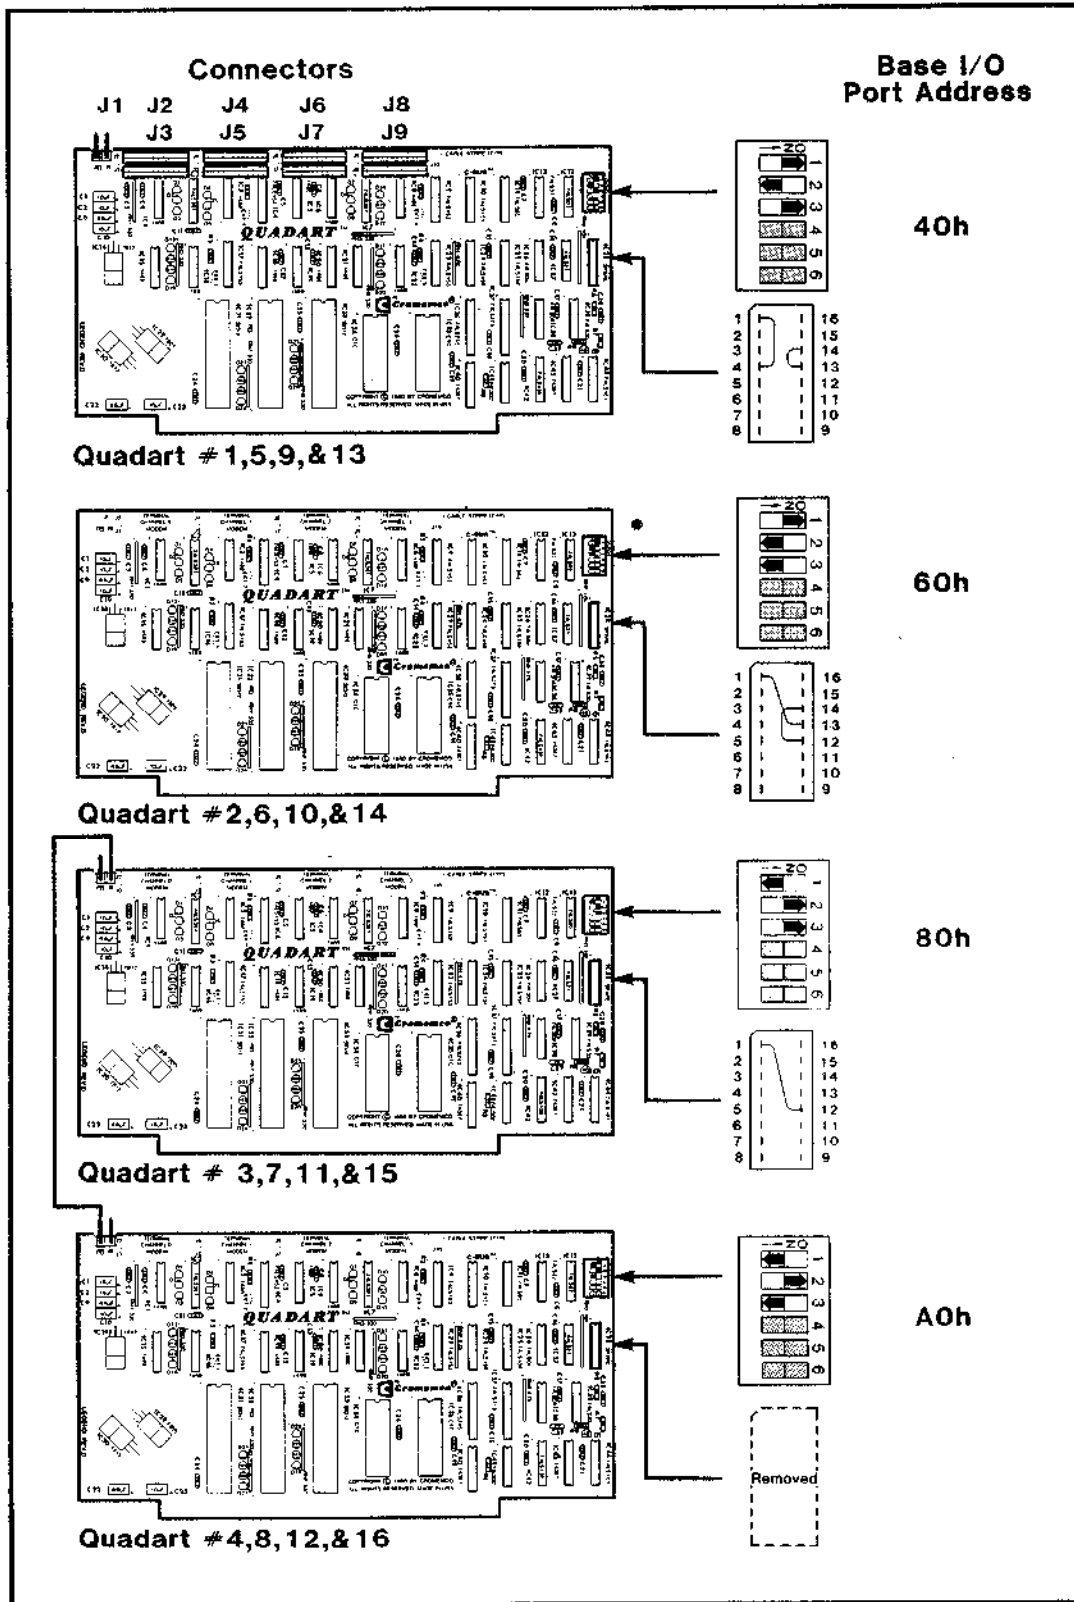

Figure 6-4: QUADART SWITCHES AND JUMPERS
2. Set Quadart switch SW-1 to select the correct C-Bus I/O base address by referring to Figure 6-4.
3. Fabricate and install a 16-pin header plug in Quadart socket IC28, wired as shown in Figure 6-4 (on Quadarts 4, 8, 12, and 16, leave socket IC28 empty). This plug establishes the C-Bus interrupt priority of this Quadart board relative to internal IOP interrupts, and to other Quadart boards connected to the same C-Bus cable. The factory-shipped header plug is wired for Quadart 1, 5, 9, and 13.
5. If four Quadart boards are controlled by one IOP board, install an external C-Bus interrupt priority cable between J1 pin 1 (PRIORITY OUT\*) on Quadart 3, 7, 11, or 15, and J1 pin 2 (PRIORITY IN\*) on Quadart 4, 8, 12, or 16, respectively, as shown in Figure 6-4. If three or fewer Quadart boards are controlled by one IOP board, this cable is not needed.